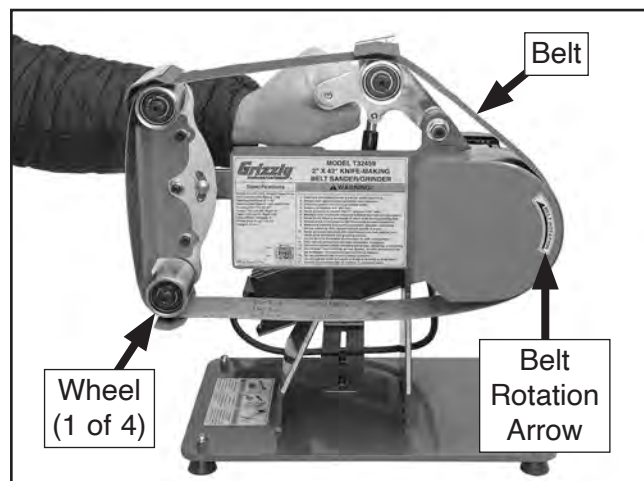

Figure 12. Abrasive belt installed around wheels.
8. While holding belt tension handle to keep gas strut compressed, install abrasive belt around wheels, being sure arrows on belt match belt rotation arrow on machine (see **Figure 12**).